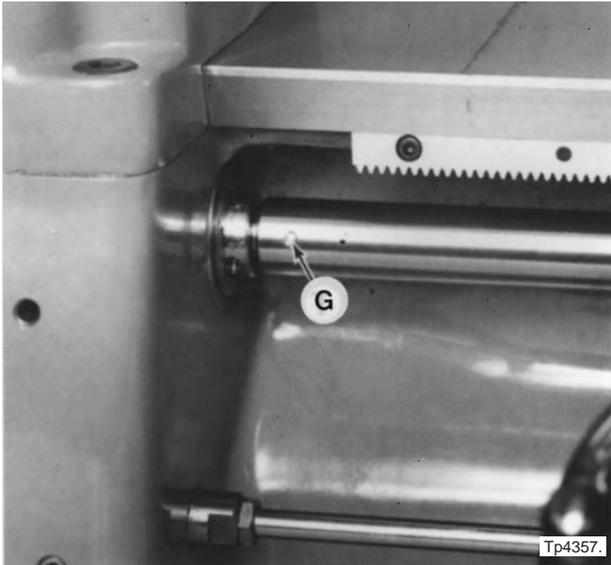

Figure 1.30 - Taper Pin for Lead Screw
Taper pin "G", Figure 1.30, connects the carriage lead screw to the gear box cluster shaft.
4. Remove taper pin "G", Figure 1.30 .
The end of carriage lead screw closest to the headstock has a hole drilled though it to accept taper pin "G", Figure 1.30 .
13. Install taper pin "G", Figure 1.30 .